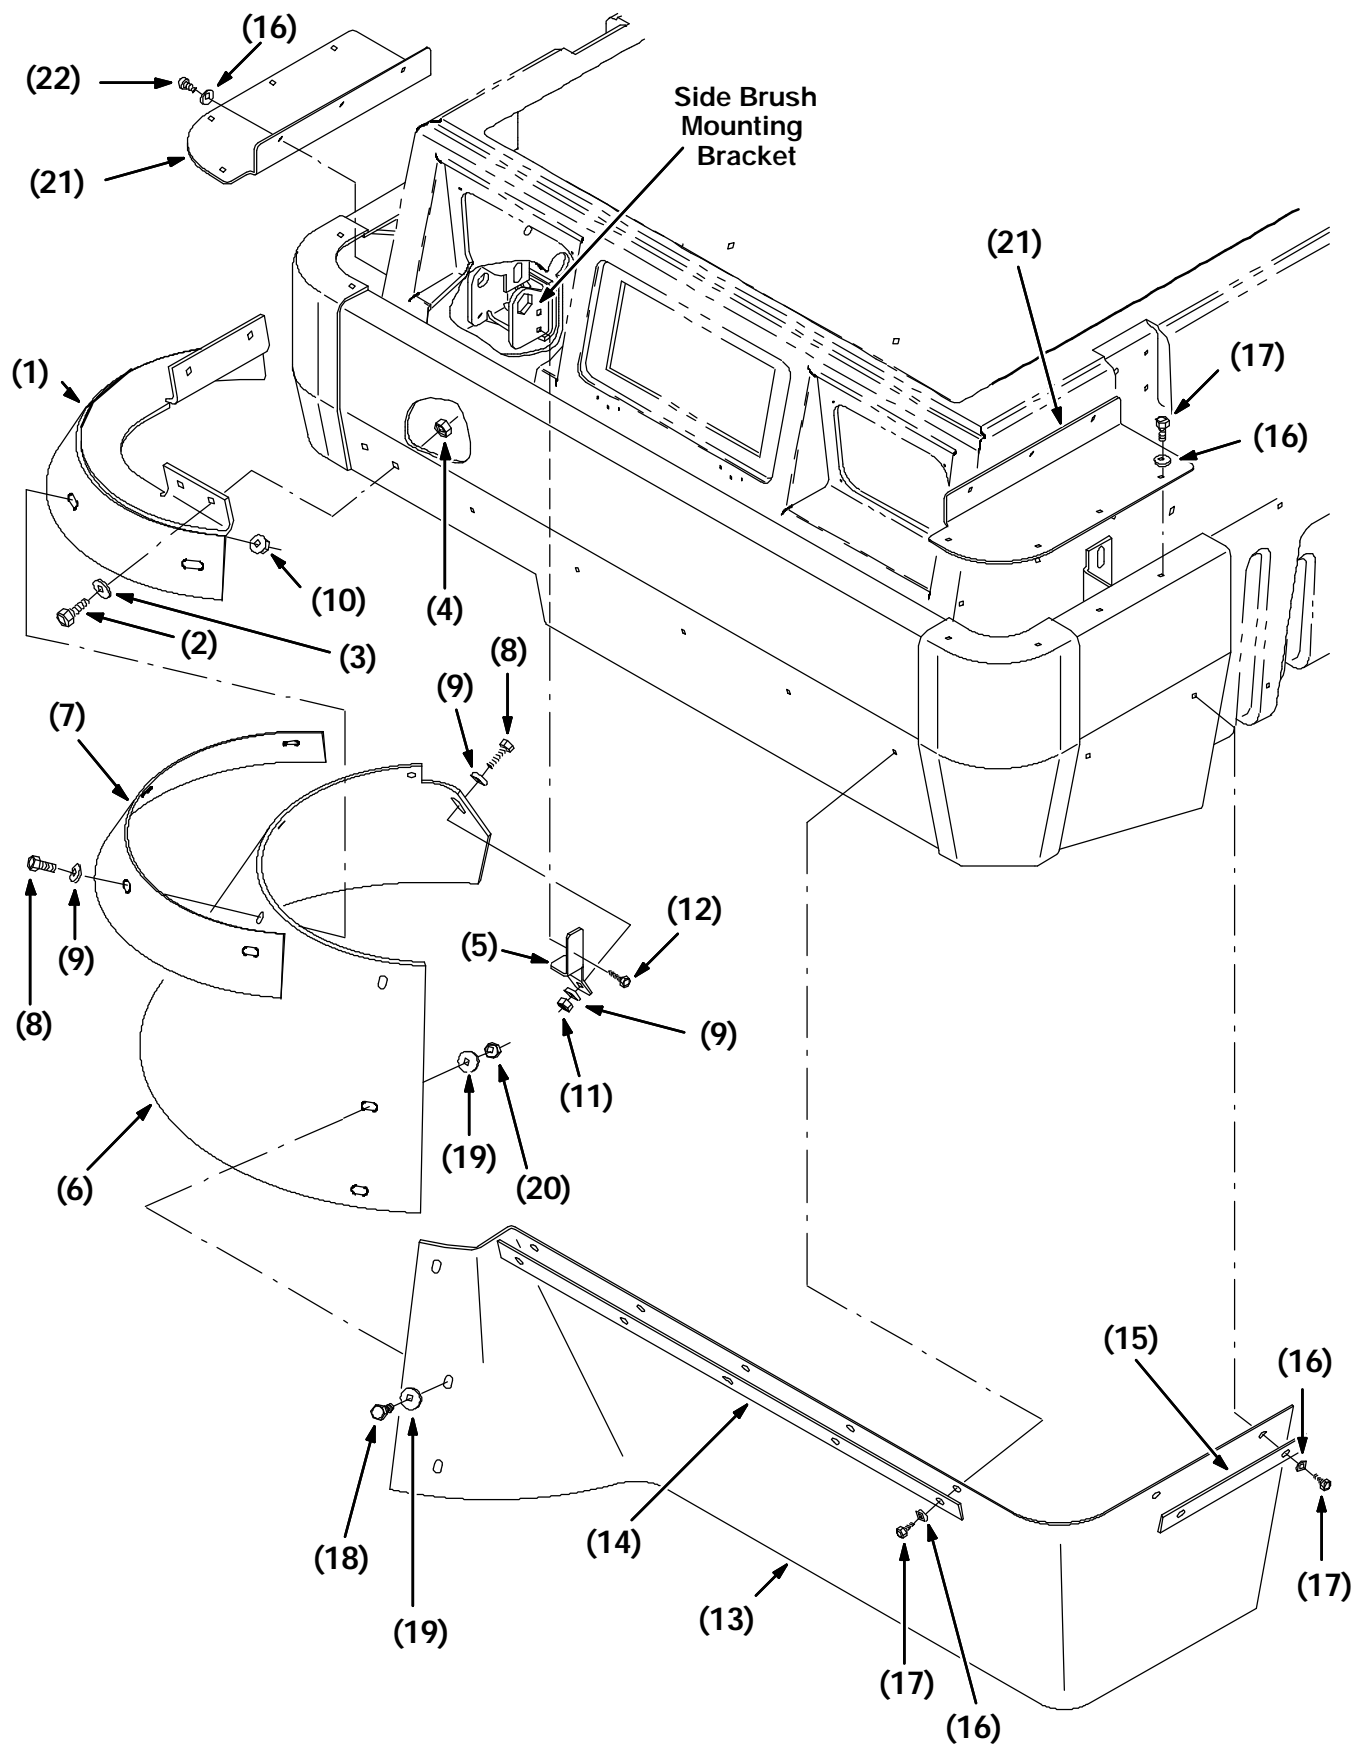

FIG. 6 - Installation of SBDC Kit Assembly
3. Attach bracket (5) to side brush mount bracket with screws (12) provided. (Refer to FIG. 6)
5. Install top seals (21) with screws (22) and (17) provided. (Refer to FIG. 6)
6. Install corner bracket (1) with hardware (2), (3), and (4) provided. (Refer to FIG. 6)
7. Install retainer strip (7) and skirt (6) simultaneously onto corner bracket (1) by hand tightening hardware (8), (9), and (10) provided. (Refer to FIG. 6)
8. Install front skirt (13), front retainer strip (14), and side retainer strip (15), by hand tightening hardware (16) and (17). (Refer to FIG. 6)